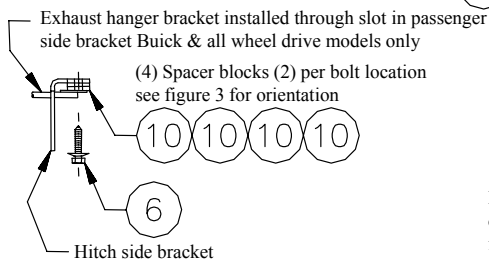
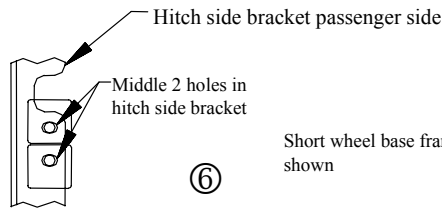

Figure 2
Figure 3
Note: On all wheel drive models, it will be necessary to pass exhaust hanger thru 3" long slot in side bracket and use (2) 1/4" blocks as shown in figure 2 and figure 3, to reattach exhaust hanger bracket.